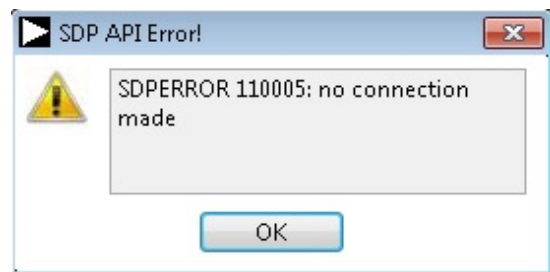

Figure 16. SDP-H1 Board Not Connected to the USB Port Error
3. If **Cancel** is clicked, a message appears as shown in Figure 16.